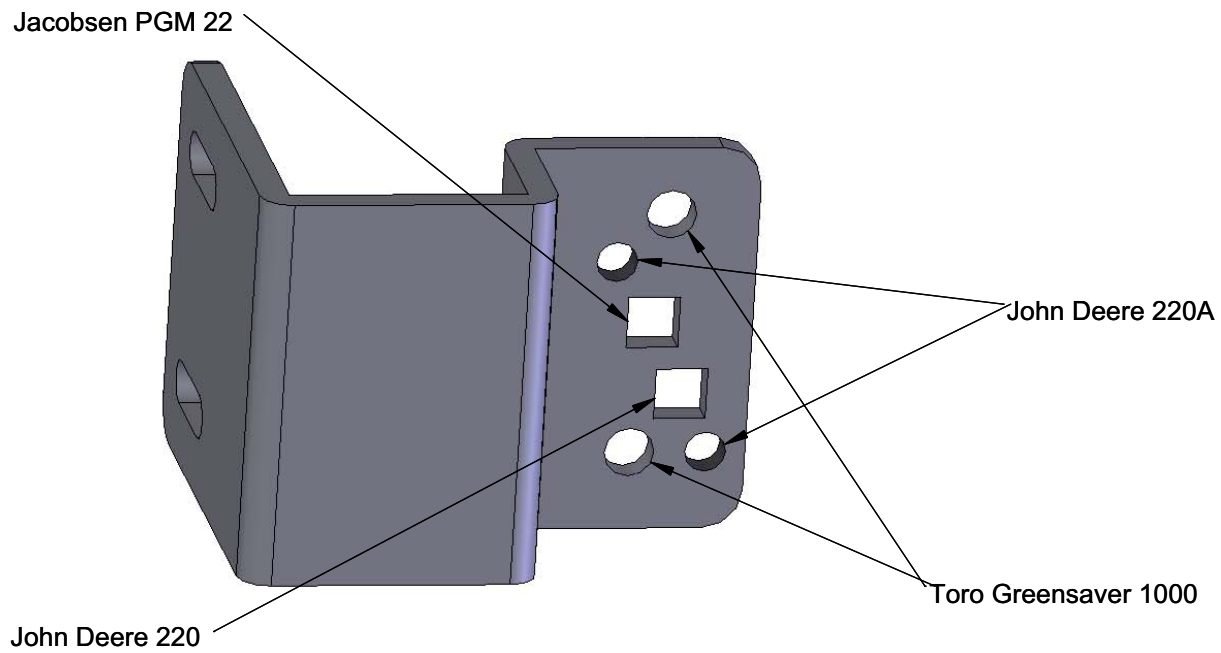

FIGURE 1
2. Attach the Corehog Left and Right Mount Brackets to the mower frame rails, reusing the catch basket mounting hardware per Figure 1.
2. Attach the Corehog Left Mount Bracket to the mower frame rail, reusing the front roller height adjustment assembly hardware per Figure 1.